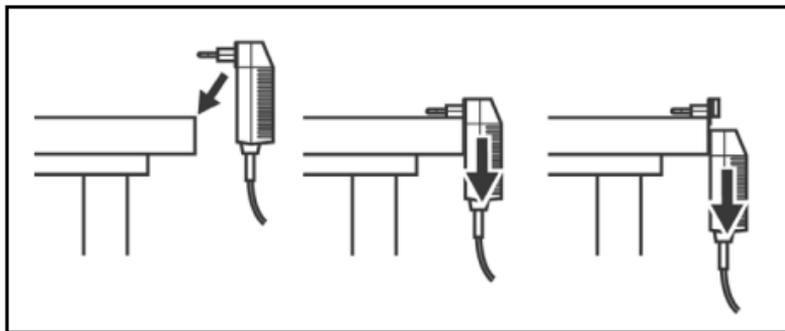

Fig. 6 SNT-121A: Changing the AC line plug adapter.
1. Place the SNT-121A against the edge of a table or bench as shown (see Fig. 6).